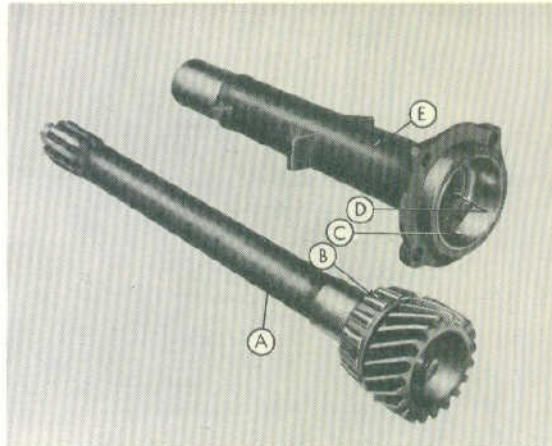
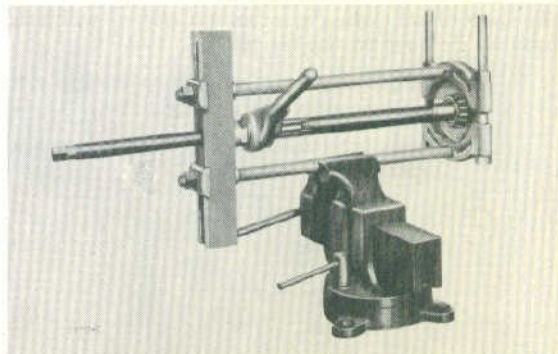
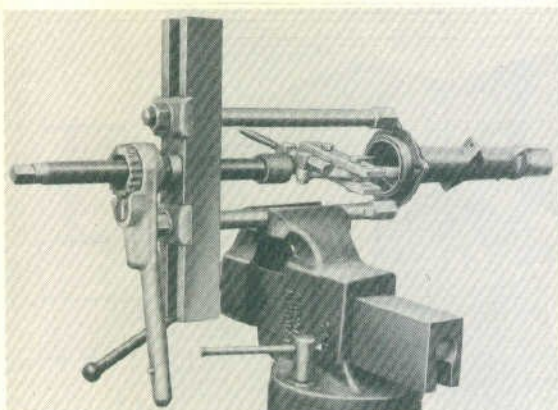
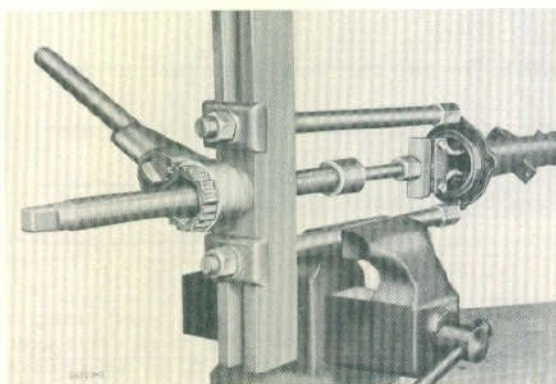

Fig. 20
Fig. 21
Fig. 22
Fig. 23
- Remove the main drive shaft, gear, and bearing assembly (A-Figure 20) from the retainer (E-Figure 20).
- For training purposes, when using a tractor in which the main drive gear bearing is undamaged, *do not* remove the bearing. Remove the bearing (B-Figure 20) from the main drive shaft as shown in Figure 21.
- Remove the bearing cup (C-Figure 20) as shown in Figure 22.
- Remove the oil seal (D-Figure 20) as shown in Figure 23.